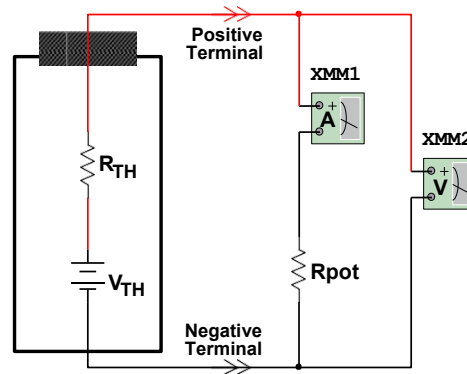

Figure 3.1 – Experimental Setup
1. **Set up** the circuit in **Figure 3.1**.